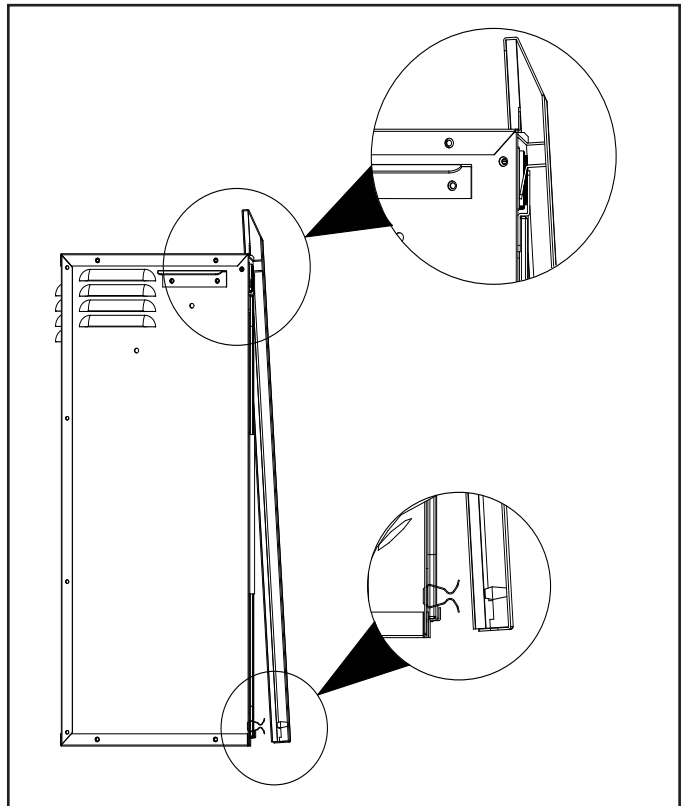

Figure 4.10 Decorative Front Installation
10. Reinstall the decorative front. See front installation Figure 4.10.
1. Install the provided appliance front by aligning the two (2) top hooks on the back of the front with the hooks on the front of the appliance. See Figure 4.10.